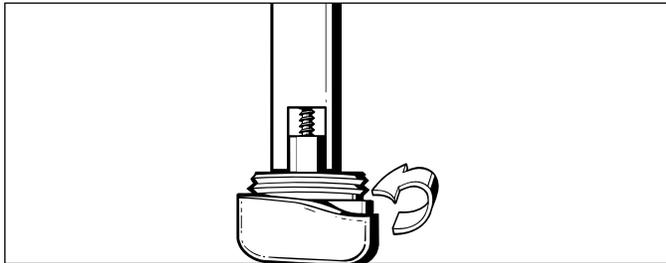

Figure 11
1.3.5 Fit the oral button cover(22) over the head of the poppet, and gently work the lip of the button cover over the ridge of the bezel, until it is evenly seated all around (see Fig. 11).